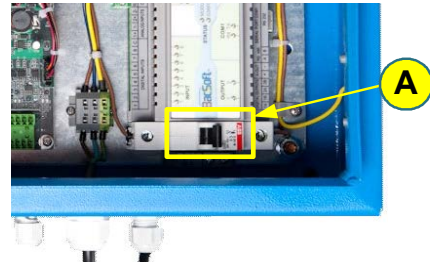

Figure 6-1: Control Module
- Step 4.** Locate the circuit breaker **[A]** in **Figure 6-1** and switch it to the **On** position.